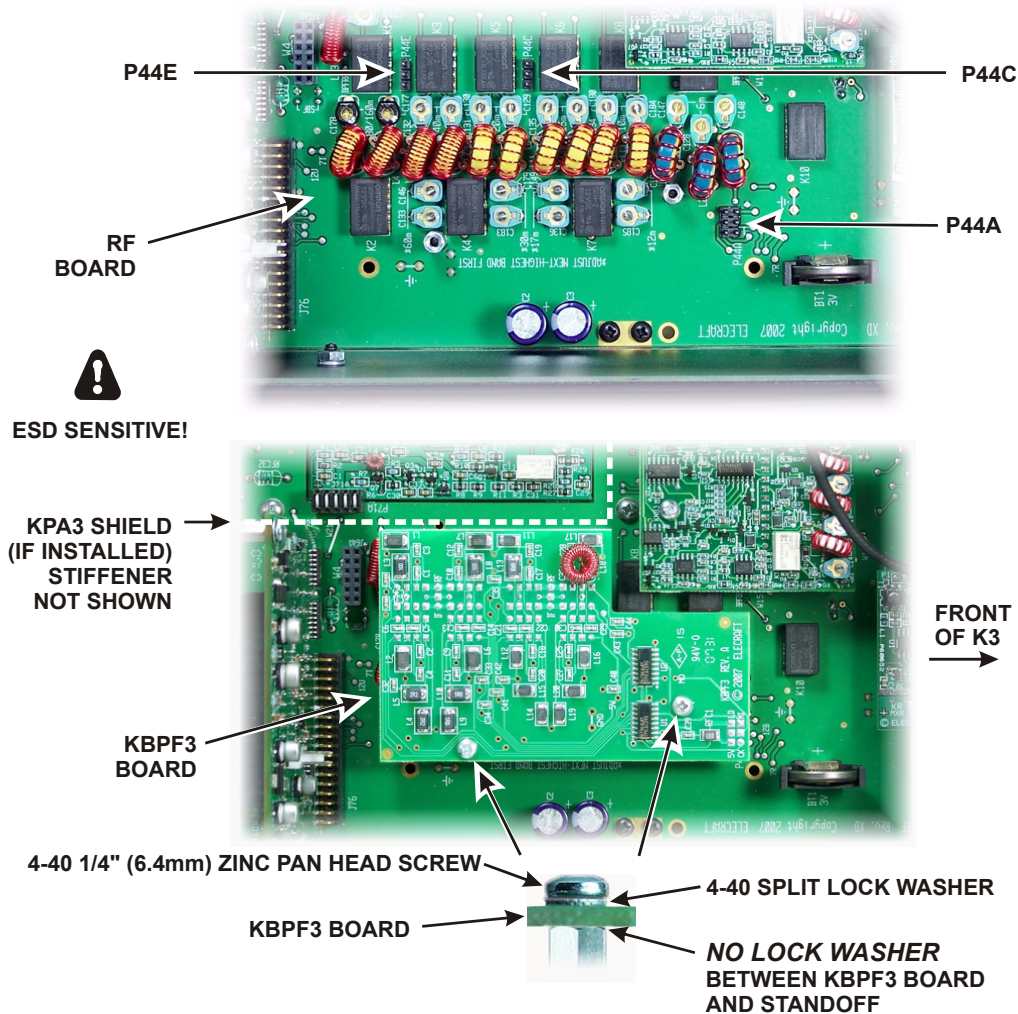

Figure 12. Mounting the KBPF3 Board.
There are three connectors on the bottom of the KBPF3 board that must be properly mated to P44A, P44C and P44E on the RF board (see Figure 12). Even though the connectors may be hard to see as they are mated, especially if the KPA3 shield is installed, they can be aligned as follows:
- Attach the KBPF3 board with a 4-40 1/4" (6.4 mm) zinc pan head screw and lock washer at each standoff as shown in Figure 12.